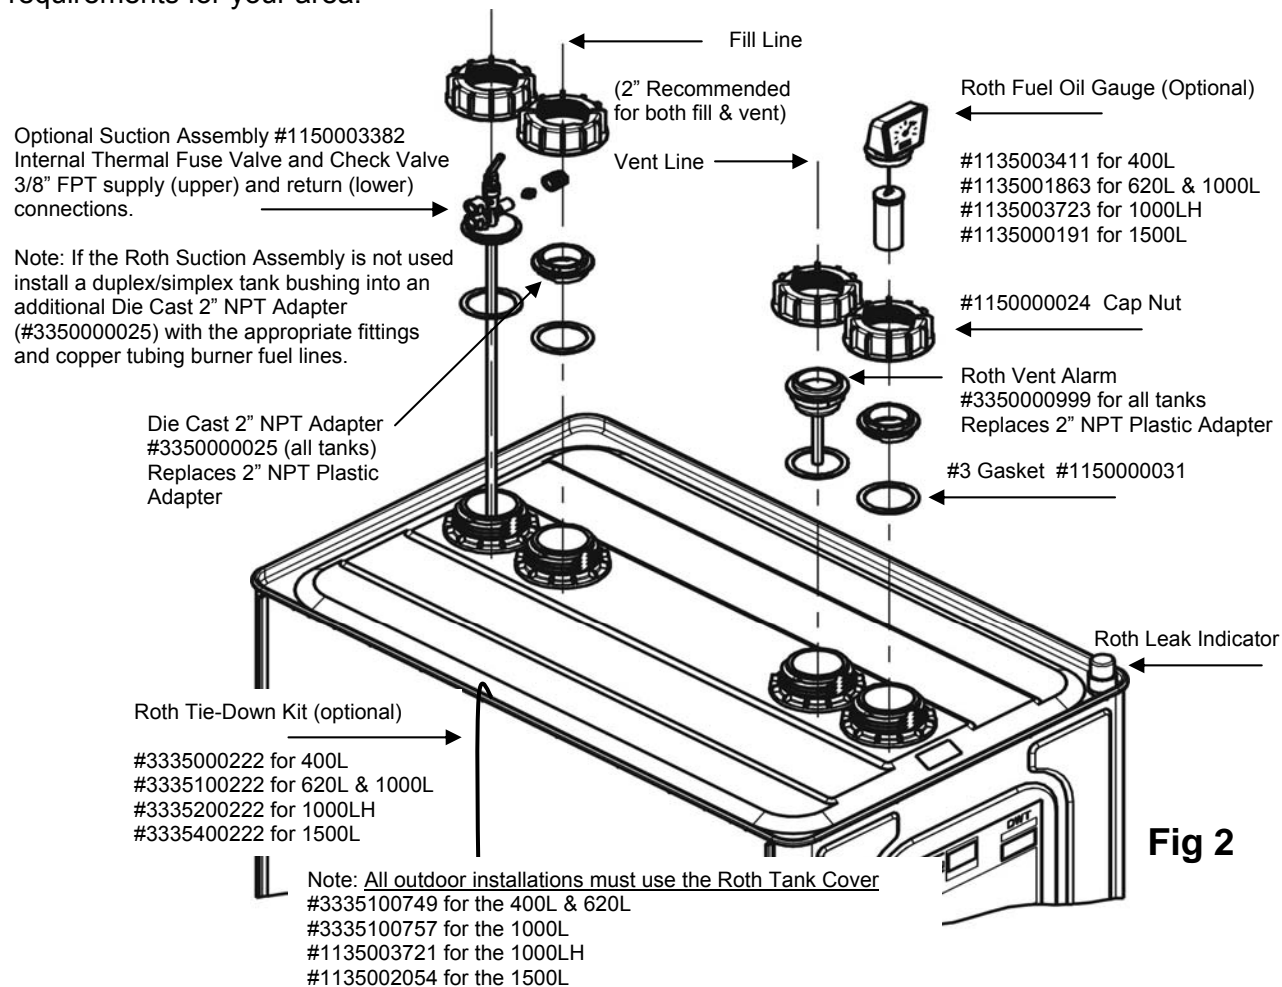

Fig 2
3. Single Tank Installation Instructions (see Figure 2)
Determine which of the tank openings will be used for the fill, vent, fuel supply/suction assembly and gauge (if used) based on your installation requirements. Figure 2 is a suggested connection diagram only and other connection patterns may better suit your installation requirements. It is strongly suggested that if you use the optional fuel gauge that you install it at the opposite end of the tank from the fuel supply suction. This will ensure that the gauge float does not get tangled in the suction line.